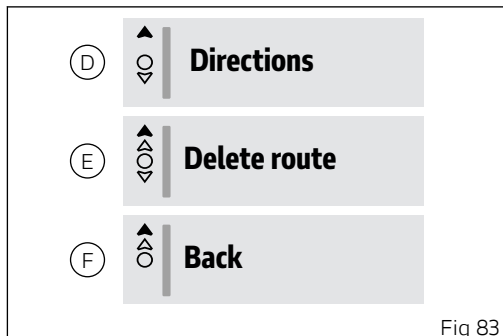

Fig 83
- Select the "Directions" item (D, Fig 83) and press ENTER (3).
- Select the "Delete route" item (E, Fig 83) and press ENTER (3).